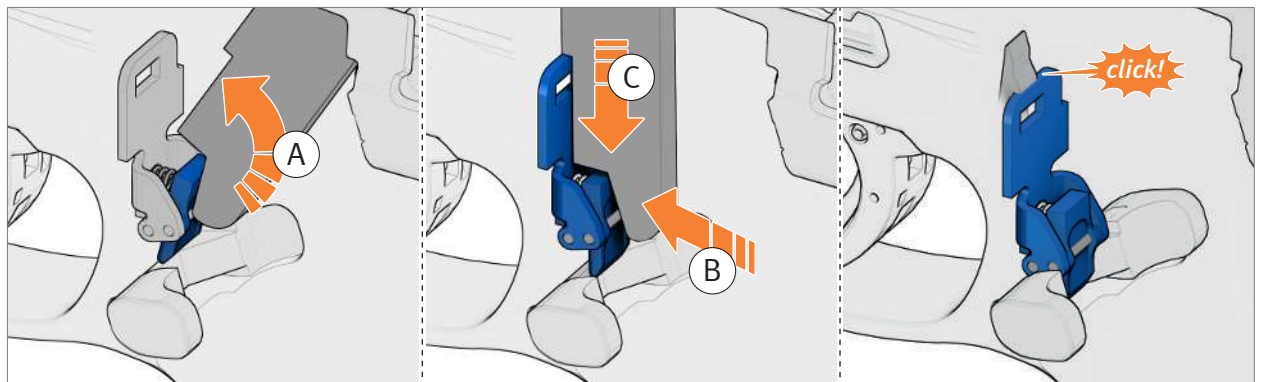

Fig. 35: Latch in the magazine catch
4. Press the detent piece on the magazine catch with the tool and hold it down (Fig. 35).
5. Push the magazine catch downwards until the magazine catch latches (Fig. 35).